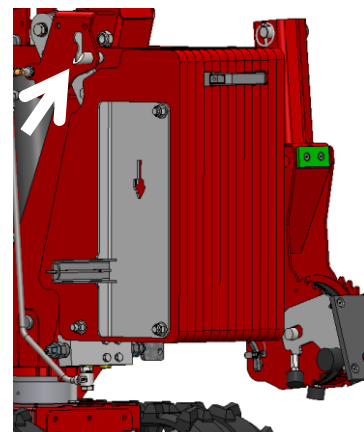

Figure: 52
- Release the ballast by turning the lip on the locking pin or pulling it out (*figure 52*).